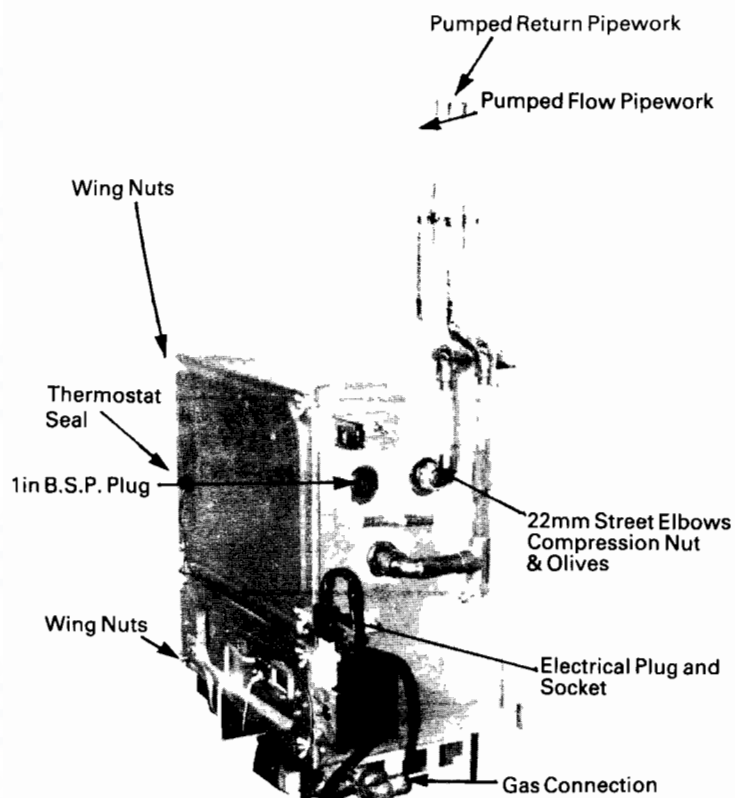

Fig. 8.
- (b) The adaptors can be fitted in the appropriate connection tappings — see Figs. 8 & 9 before **lifting the boiler into position on the wall**.
The pipes should be connected in the following order: (see Fig. 8 for example).
Gas Connections (Fig. 8)